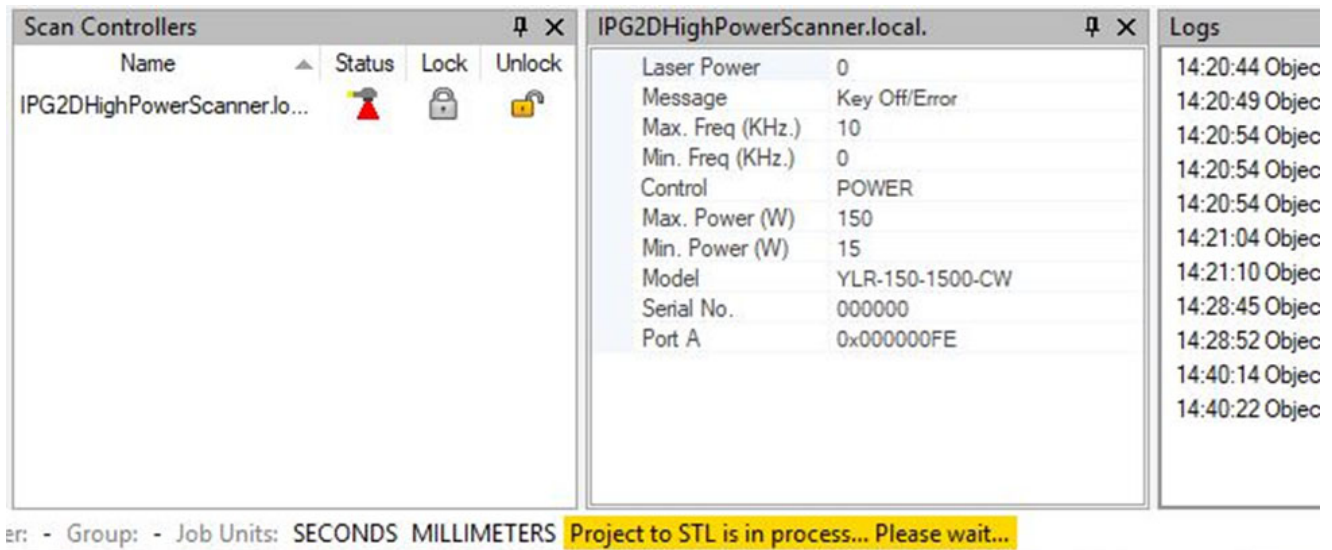

Figure 137: Warning during Projection Process
10. Depending on the number of vectors in the process object, this process can take some time. Figure 137 (below) details the warning that will appear in IPGScan while the projection process is taking place.